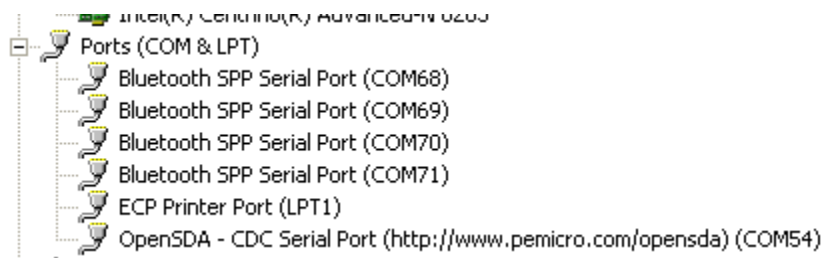

Figure 4. Example List of Ports in Device Manager
- b. Ensure that the OpenSDA serial port is recognized by the OS of your PC. See Figure 4.